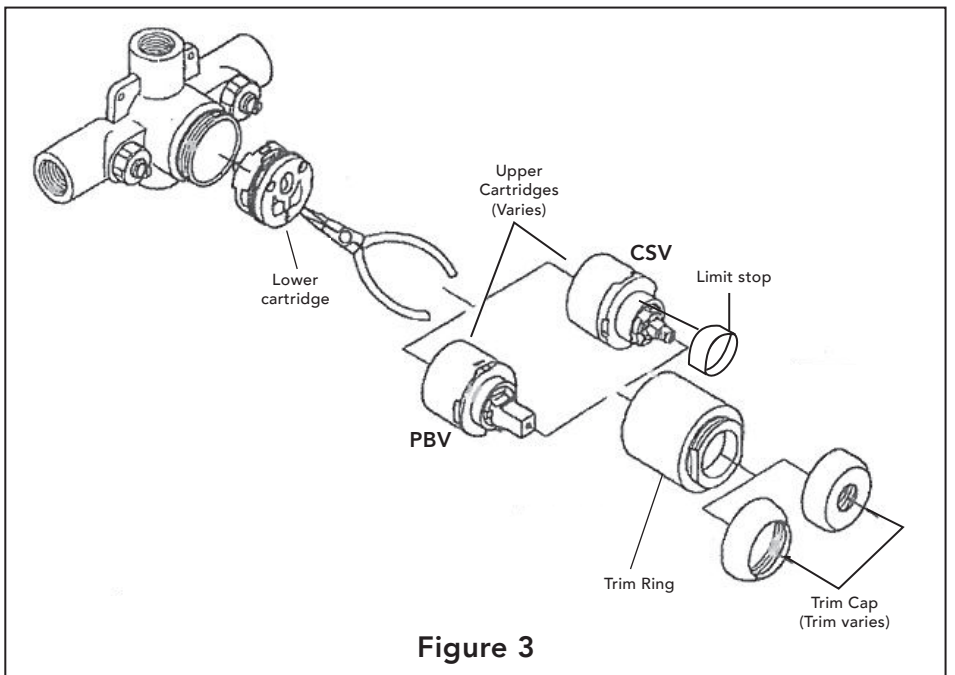

Figure 3
2. Remove both the upper and lower cartridges. **Figure 3**
4. Replace upper cartridge. **Figure 3**
4. Remove trim ring. **Figure 3**
5. Remove upper cartridge. **Figure 3**
6. Remove limit stop. **Figure 3**